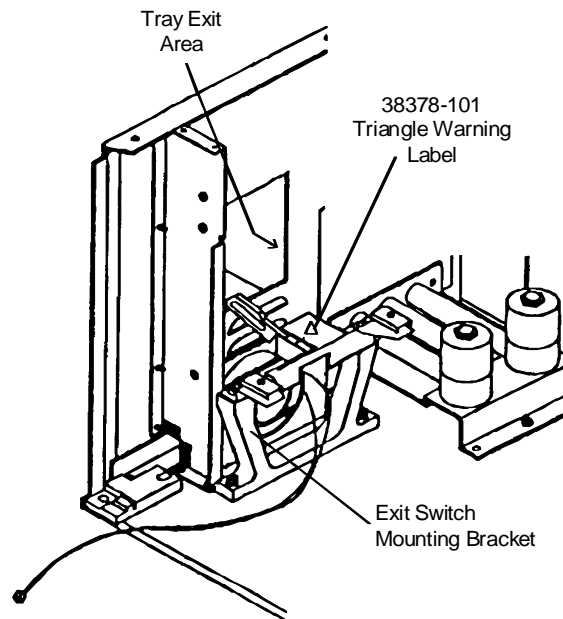

Figure 13: Tray Exit View
- h) Place the third Triangle Label onto the Exit Switch Mounting Bracket as designated in Figure 13.